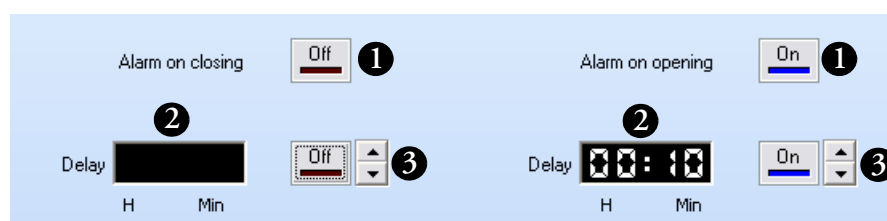

Figure 73. – Enabling limits for a dry contact sensor
1. Click On/Off to enable/disable alarms (#1 in Figure 73) when the dry contact module detects opening or closing, and then set the time to wait before sending the alarm (delay).